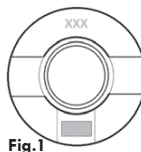
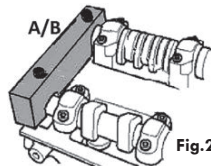

Fig.1
Fig.2
Components A/B: Camshaft locking Block type 1 and 2 With the slots in the rear of the camshafts aligned to the cylinder head as shown in Fig.1 Use both components A and B to lock the camshafts in position as shown in Fig. 2. Fit A and B after the crankshaft locking pin (D) has been installed. When fitting A and B tighten the fixing screws by hand.